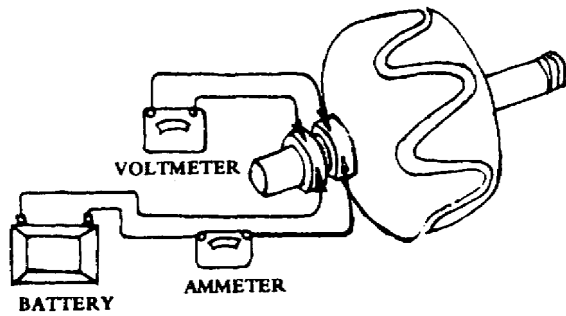

Figure 2. Rotor, operational.
(1) Variation in the generator load should have minimum effect on the output voltage as observed on the voltmeter.
(2) Variation in the generator load should have a great effect on the output current as observed on the ammeter.
(3) A comparison of voltage regulation and maximum current, as stated in the specifications, should match the observed meter indications.
4. ROTOR CHECKS. The rotor windings may be checked by connecting a battery, ammeter, and voltmeter to the edge of the sliprings. If the current draw is above specifications, the windings are shorted; if the current draw is low, excessive resistance is indicated (fig 2).